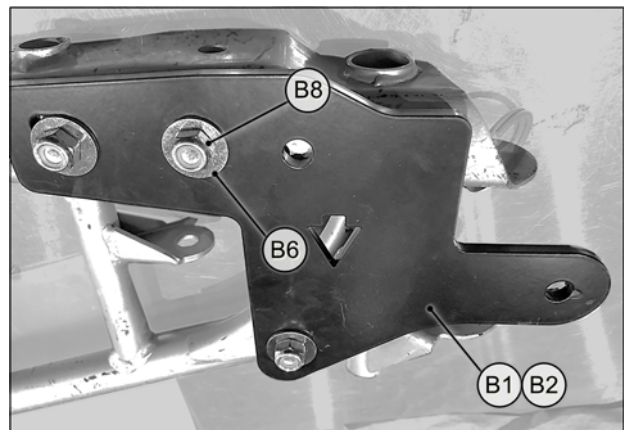

Fig. 8
- Position the anchor bracket (B1-B2) on the assembly bolts previously inserted. Secure the anchor bracket in place using the provided flat washers (B6) and nuts (B8). Torque bolts to 25 N•m [18 lb•ft]. See Fig. 8